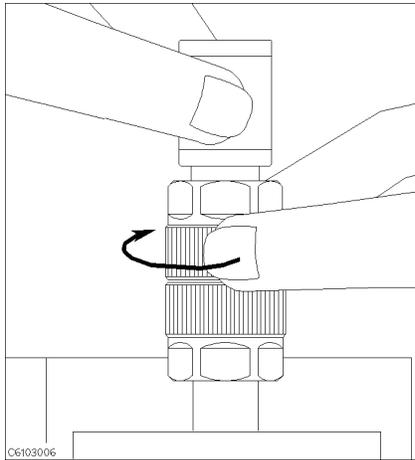

Figure 3-11.
14. Connect the $50\ \Omega$ termination on the APC-7[®] connector as shown in Figure 3-11.